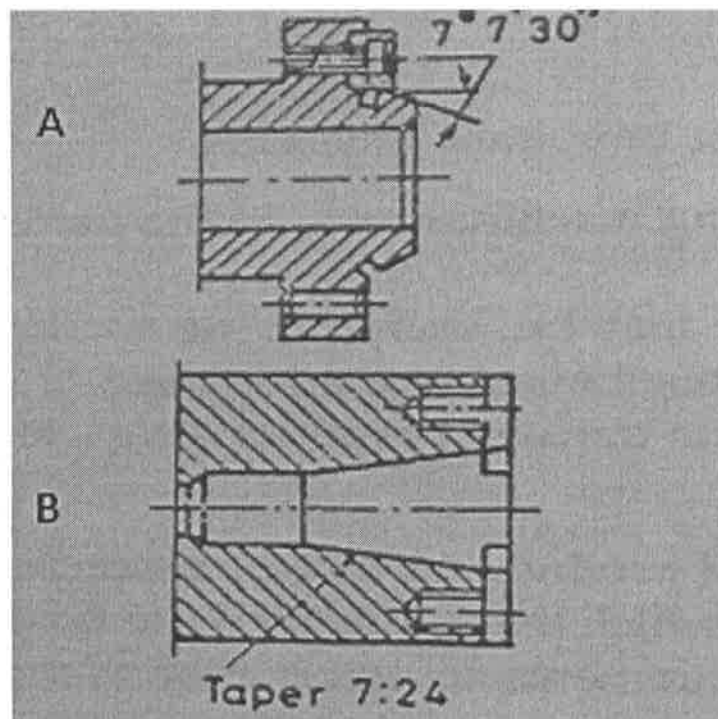

Figure 1
- (c) Figure 1 shows the types of spindle ends. Describe briefly the application for type A and B.